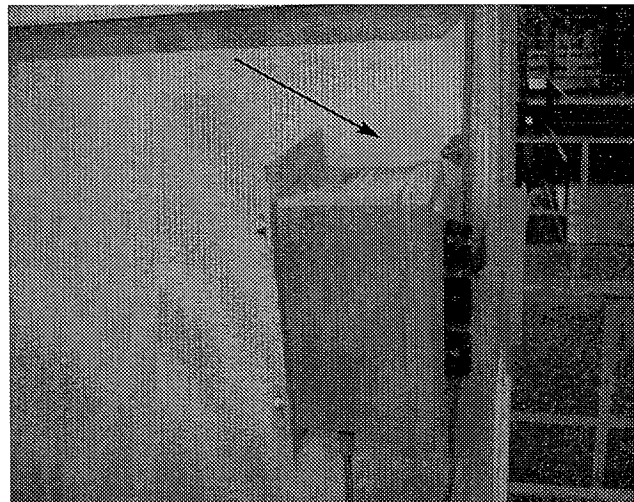

Figure 9
7. Attach push button brackets to one of the bolts holding horizontal edge of lift sides together. See Figure 9.